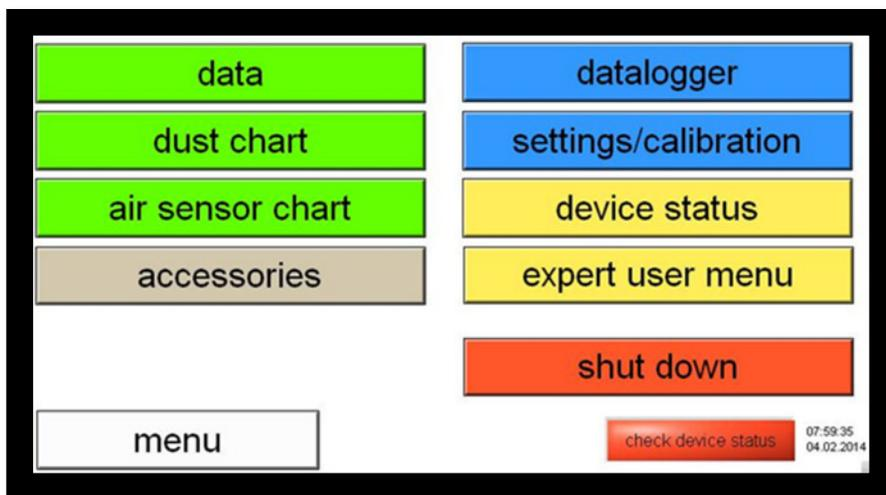

Figure 14: Main menu
After starting the APDA-372, you will find yourself in the main menu (Figure 14):
- After starting the APDA-372, you will find yourself in the main menu (see Figure 14):